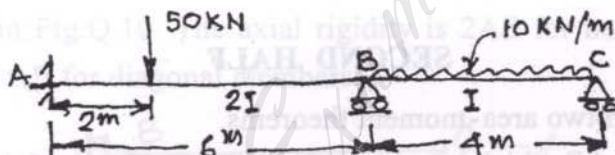

Fig.Q.1
1. Analyse the beam loaded as shown in Fig.Q.1 by moment distribution method. Also draw BM diagram.